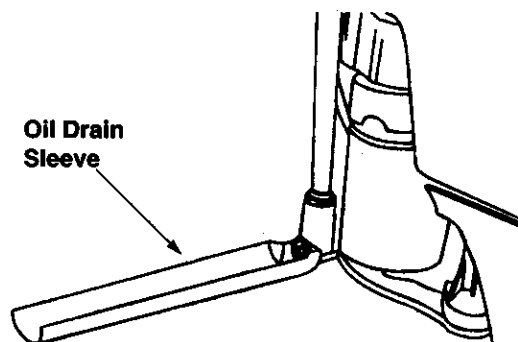

Figure 26
- To drain the oil, snap small end of the oil drain sleeve onto oil sump. See Figure 26.